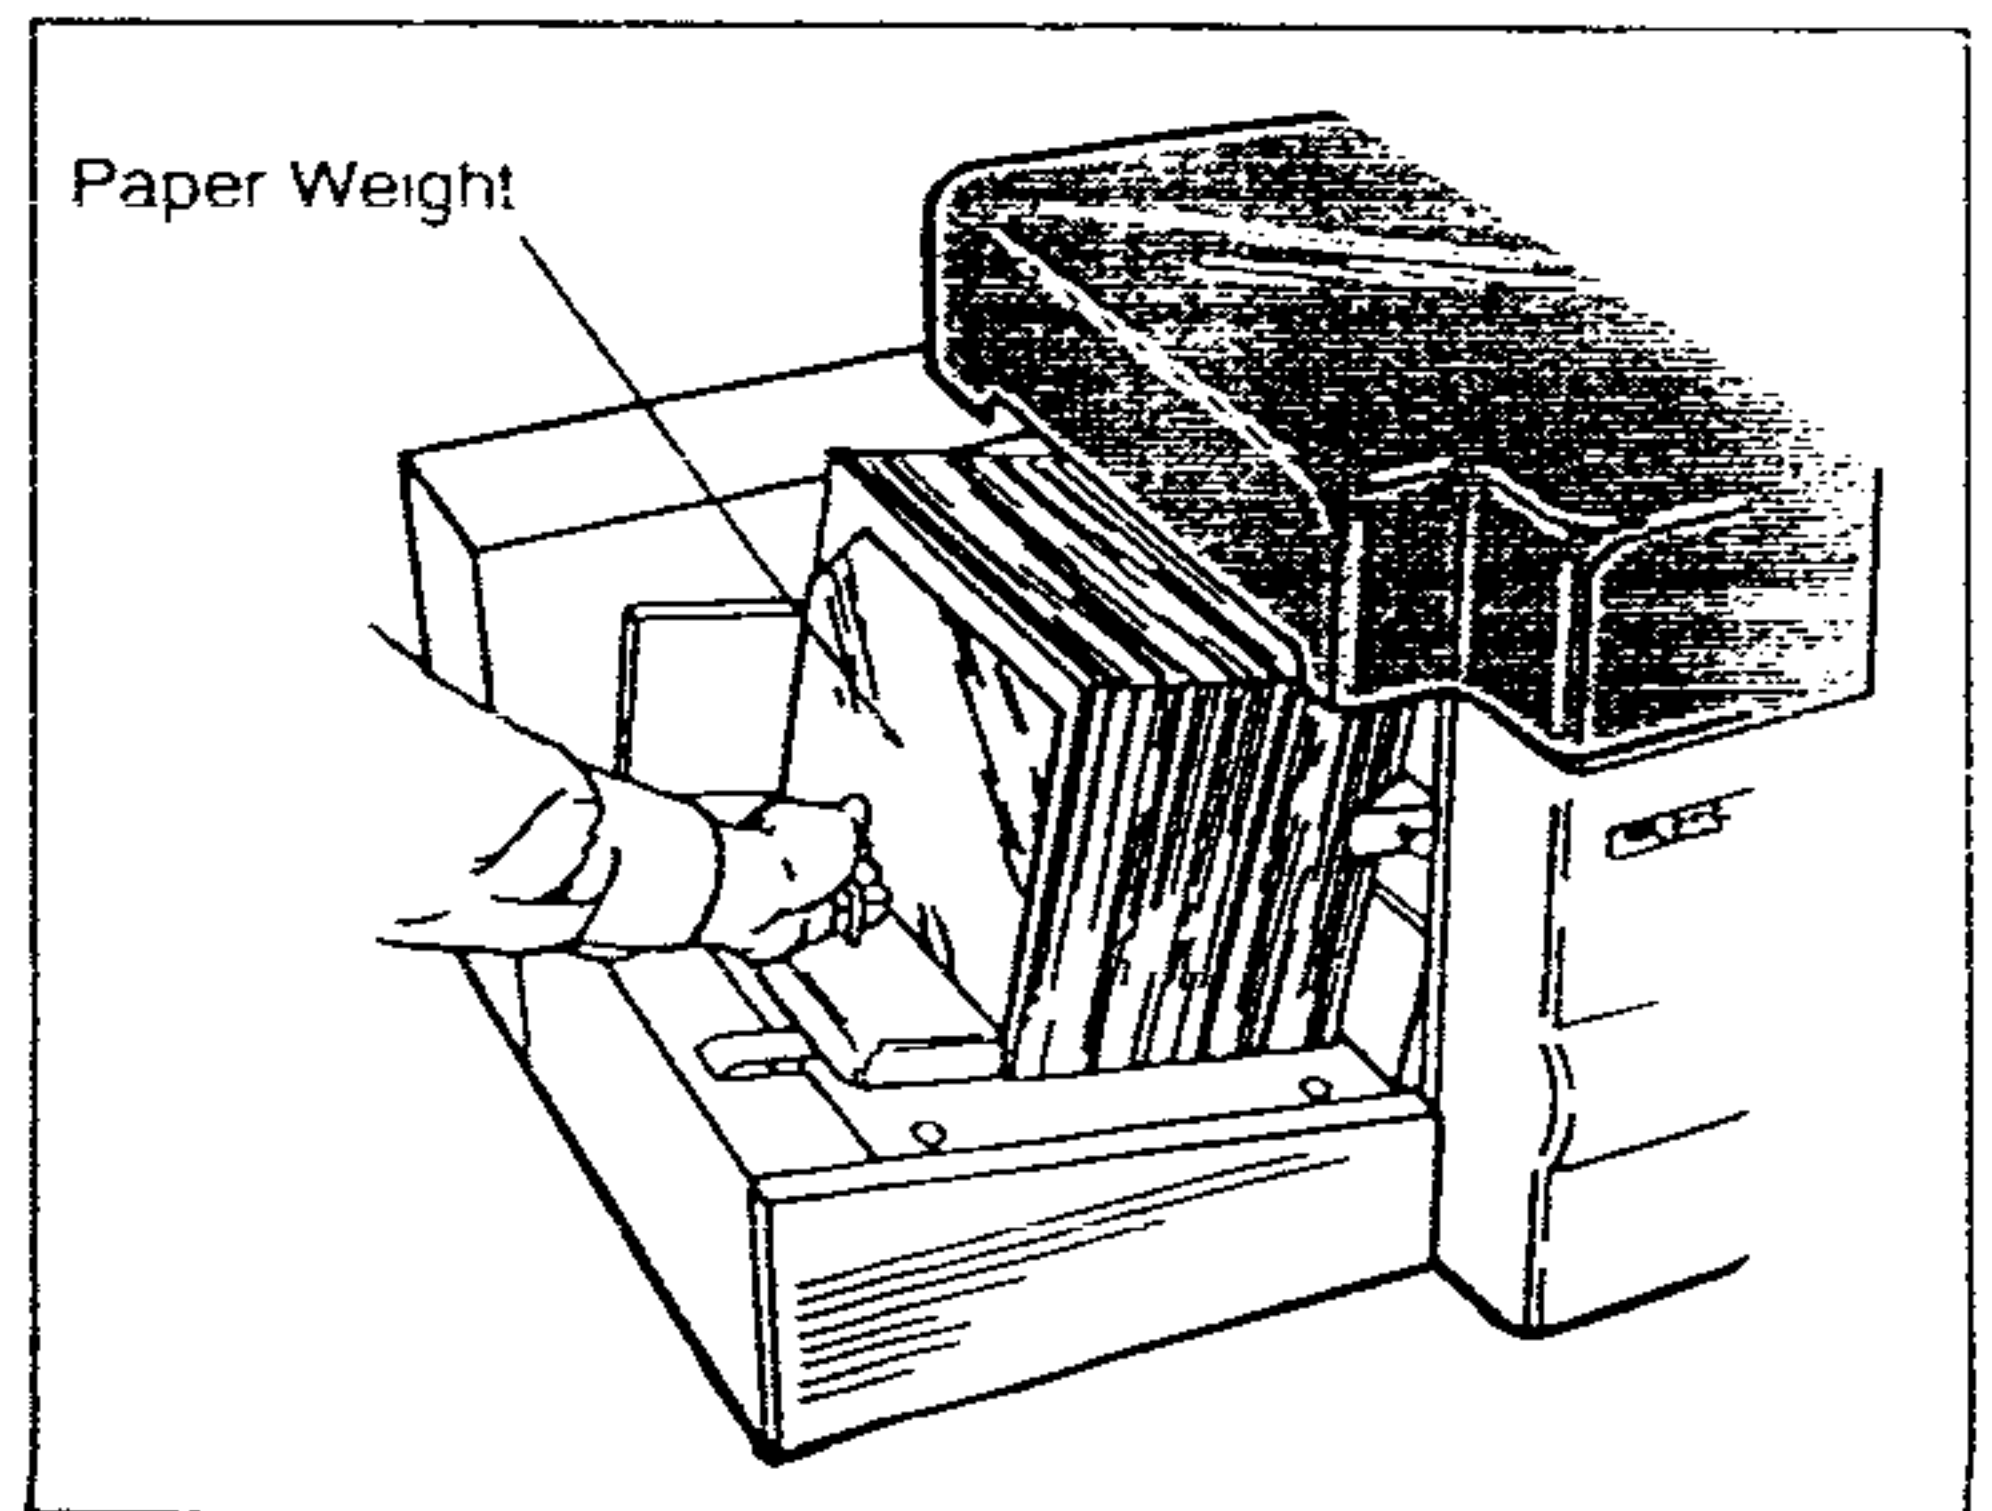

Figure 10
11. Place the Paper Weight behind the last sheet to keep the stack in place (see Figure 10)